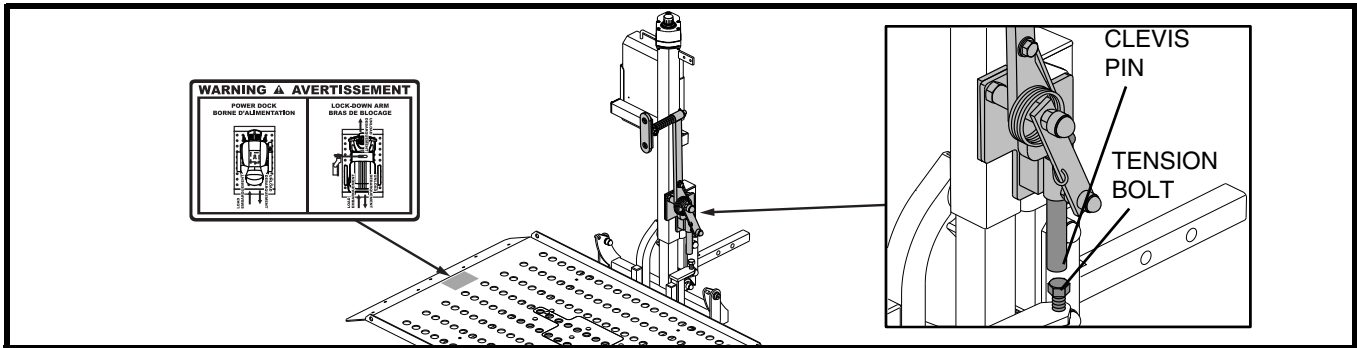

Figure 5. Tension Bolt and Clevis Pin Adjustment
10. Attach the supplied warning label to the lift platform. See figure 5.
11. Adjust the tension bolt on the H-frame that actuates the lock-down arm clevis pin. This adjustment should compress the spring on the lock-down arm pivot foot to ensure proper securement of the scooter when in the stowed position. See figure 5.